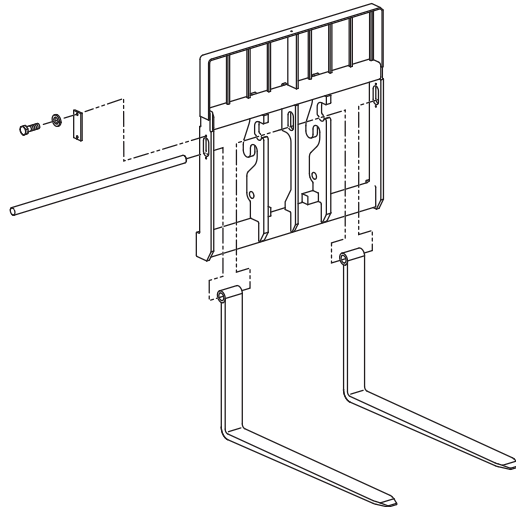

Figure 41 Changing Forks
3. Draw the bar out of the fork eye, being careful that the fork doesn't fall over, causing possible injury (see Figure 41).